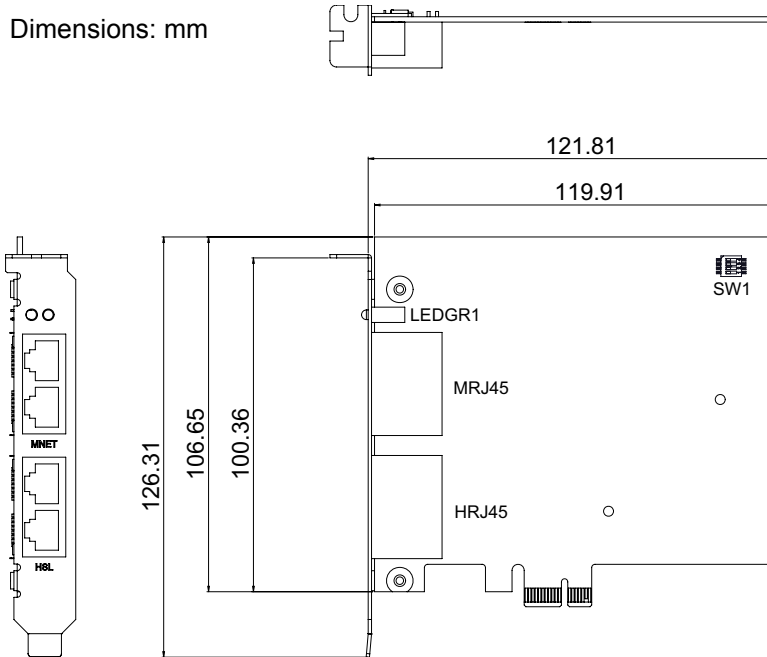

Figure 2-1: PCIe-7856 Mechanical Drawing
- ▶ Check the product for any sign of defect or damage (use Figure 2-1 on page 6 as a reference).